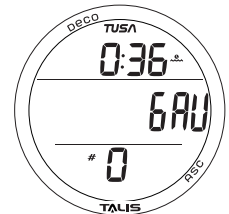

Fig. 3 - GAUG MODE SURFACE MAIN
- >> GAUG (Fig. 3) is used for dives in which Nitrogen-Oxygen calculations are not performed.